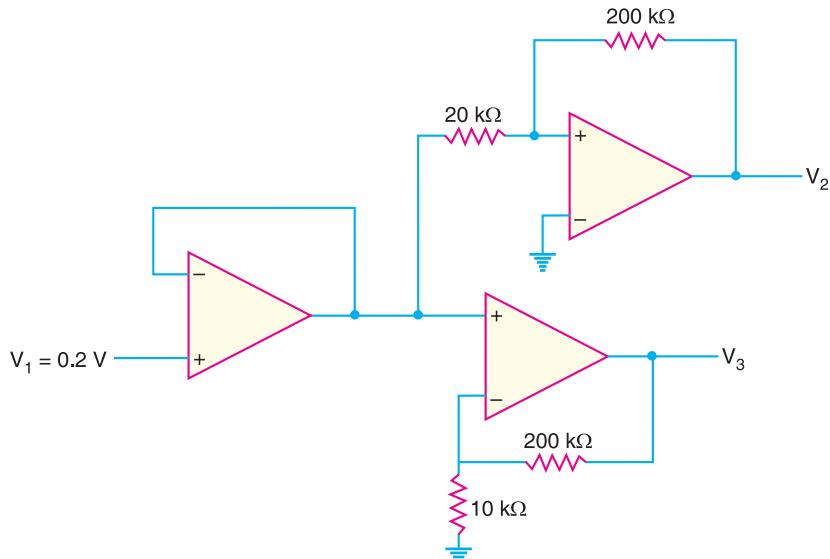

Fig. 25.108
15. Calculate the output voltages V_2 and V_3 in the circuit of Fig. 25.108. [V_2 = -2 \text{ V}; V_3 = 4.2 \text{ V}]